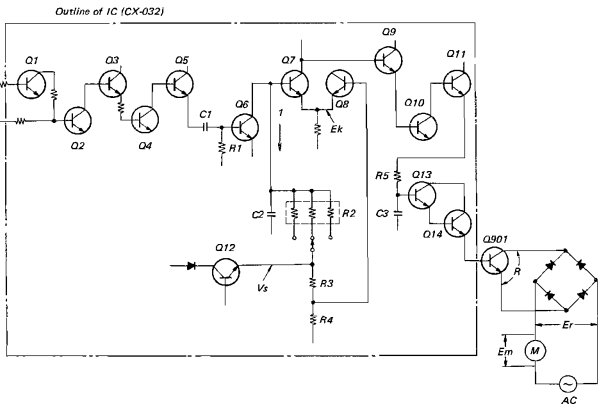
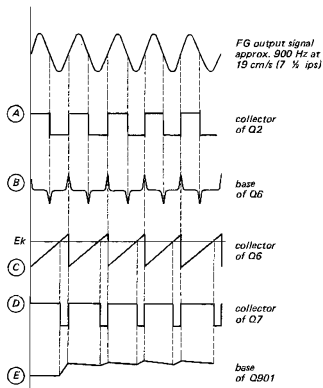

Fig. 9. Servo amplifier outline
Fig. 10. Waveform at each point
Servo amplifier which changes impedance R operates as follows : See Fig. 9 and Fig. 10.
- 1) Sine wave signal generated by frequency generator FG is transferred to bases of Q1 and Q2. Since base bias voltages of Q1 and Q2 are set to saturation region, sine wave signal is waveshaped to square wave signal shown by (A) in Fig. 10.
- 2) Square wave signal from Q2 is amplified by Q3, Q4 and Q5. It is transferred to differentiating circuit comprising C1 and R1 and is waveshaped to pulse shown by (B) in Fig. 10. Then it is transferred to base of Q6.
When pulse shown by (B) in Fig. 10 is transferred to base of Q6, Q6 repeats ON and OFF states. C2 discharges while Q6 makes current flow as shown by the arrow (1) in Fig. 9. Thus sawtooth wave signal shown by (C) in Fig. 10 is obtained at collector of Q6.
- 5) The sawtooth wave signal is supplied to base of Q7. Since the emitter voltage E_k is kept constant, Q7 turns ON only when the peak value of sawtooth wave signal is greater than E_k . When Q7 turns ON, the negative pulse shown by (D) in Fig. 10, appears at collector of Q7.
- 6) This pulse is amplified by Q9, Q10 and Q11, and its polarity is inverted. The positive pulse is transferred to the integrator comprising R5 and C3, and is waveshaped as shown by (E) in Fig. 10. After being amplified by Q13 and Q14, it is transferred to base of Q901. And this base voltage changes impedance between collector and emitter of Q901 and controls motor speed.